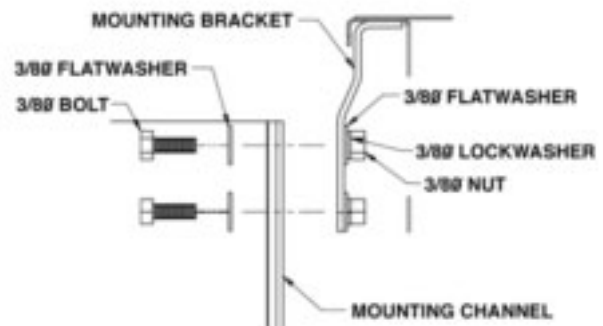

Figure 18 – Mounting Base Installation
2. Use 3/8" flat washers, lock washer and nuts to secure the mounting channel to the bracket (See Figure 18).